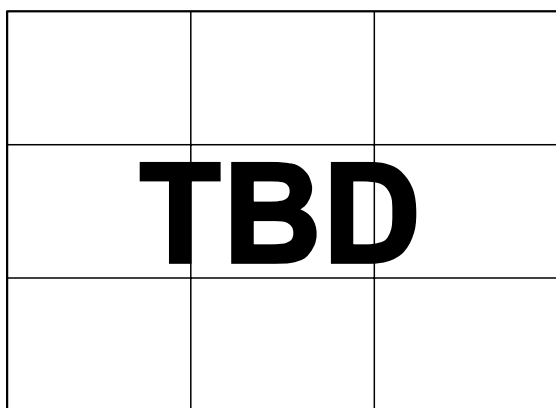

Figure 12. THD vs. Frequency
- For ac applications, the driver needs to have a THD performance suitable to that of the AD7942. Figure 12 gives the THD versus frequency that the driver should exceed.